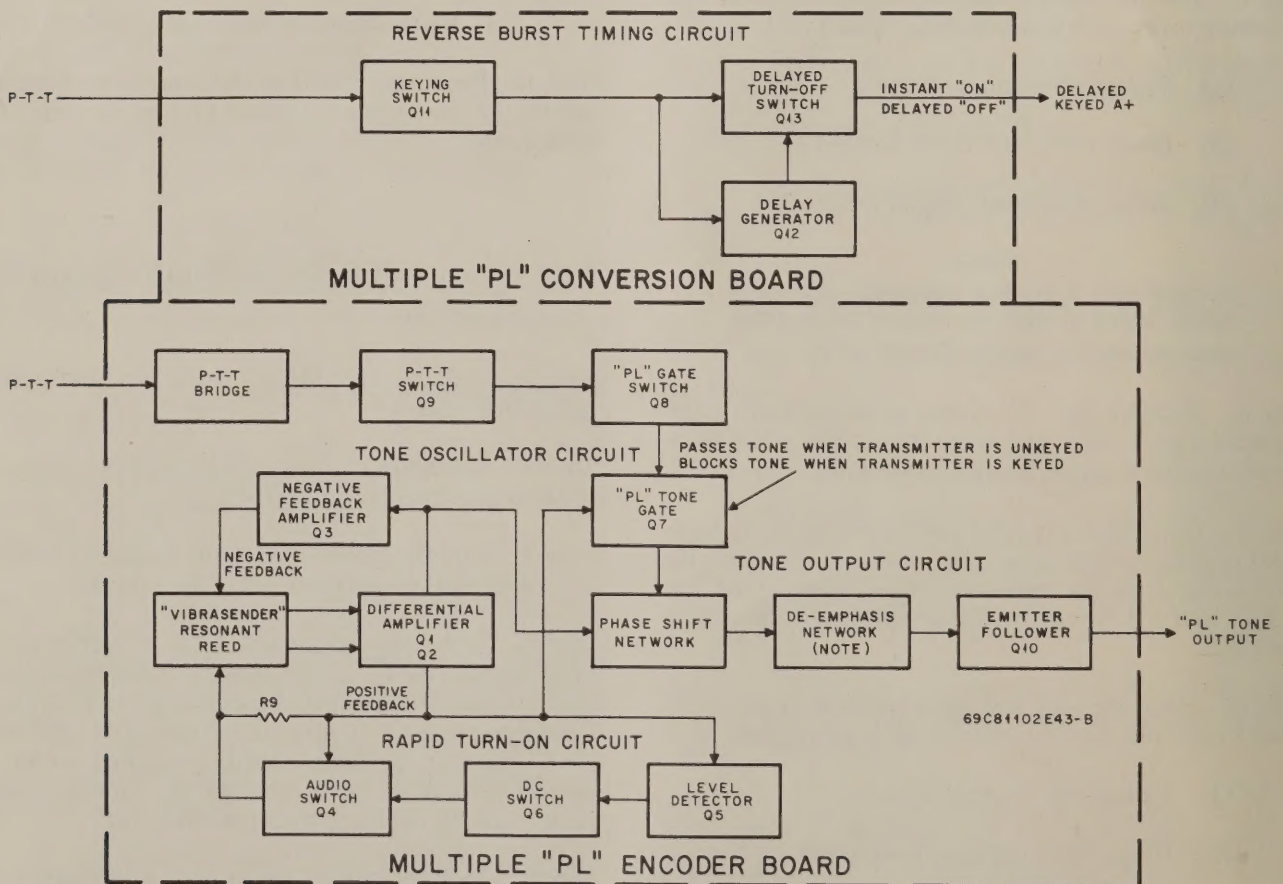

Figure 2.
5.1 Refer to the multiple PL encoder block diagram, Figure 2. The encoder may be divided into four major sections.